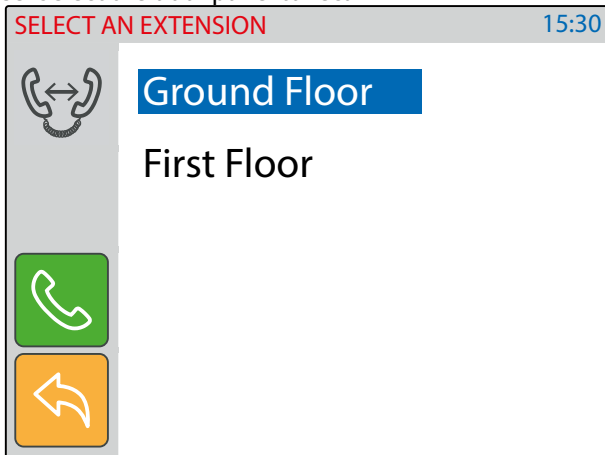

Fig. 57 Select the extension to call
- Select the indoor station to connect to then tap the call button to open the communication (Fig. 57).